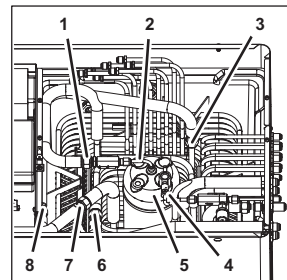

Figure 70
1. Disconnect the connecting line from the non-return valve of the solenoid valve (Figure 70/2) to the carbonator tank (Figure 70/5) from the coupling (Figure 70/1).
2. Disconnect the CO₂-IN line from the coupling (Figure 70/4).
3. Disconnect the soda water line from the coupling (Figure 70/3).
4. Disconnect the connecting line from the carbonator pump to the pre-cooling coil from the coupling (Figure 70/7).
5. Disconnect the connecting line from the circulation pump to the soda supply from the couplings (Figure 70/6 and 8).
34. Attach the connecting line from the circulation pump to the soda supply to the couplings (Figure 70/6 and 8).
35. Attach the connecting line from the carbonator pump to the pre-cooling coil to the coupling (Figure 70/7).
36. Attach the soda water line to the coupling (Figure 70/3).
37. Attach the CO₂-IN line to the coupling (Figure 70/4).
38. Attach the connecting line from the non-return valve of the solenoid valve (Figure 70/2) to the carbonator tank (Figure 70/5) to the coupling (Figure 70/1).